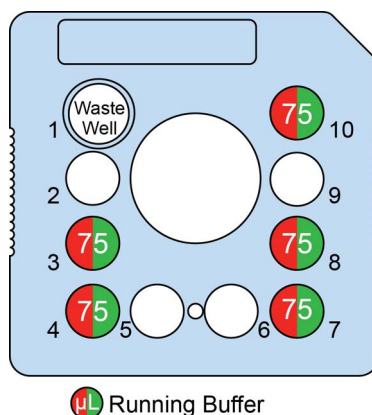

Figure 2. Reagent placement
- 5 Using a reverse pipetting technique, add **75 µL** of the **Running Buffer solution** to chip wells 3, 4, 7, 8, and 10 (as shown in Figure 2.)